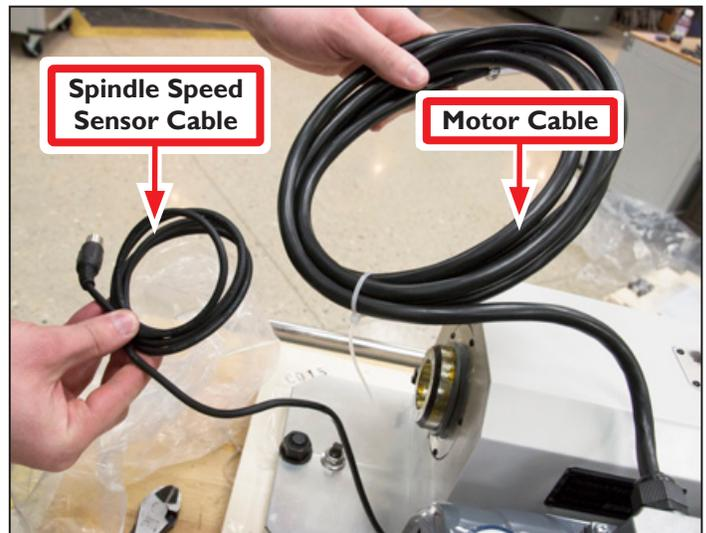

Figure 2.27
- Plug Motor Cable (see **Figure 2.27**) into Quick Change Motor Connection Kit's quick disconnect junction box; screw down threaded connector
- Plug Spindle Speed Sensor Cable (see **Figure 2.27**) into mill's *Accessory* port